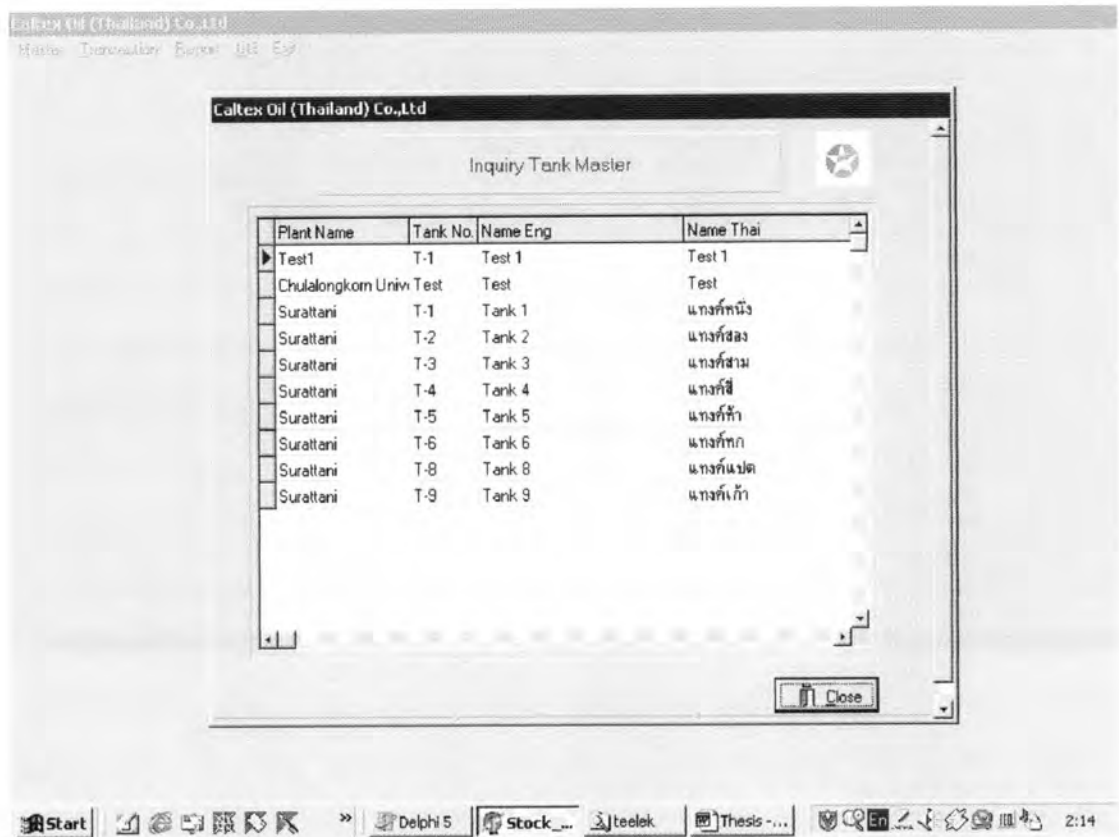

Figure 4-15 Inquiry Tank Menu
c) Inquiry plant data (see figure 4.15)